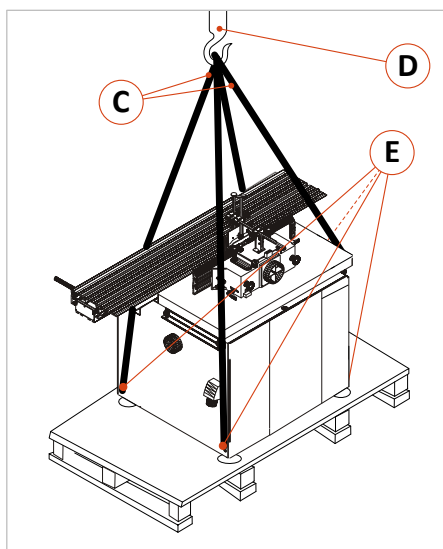

Figure 6: Lifting and parking with a crane
- Prepare four lashing straps or transport ropes (C) with the required load capacity and in sufficient length and hang them on the crane hook (D) as shown in ⇒ Figure 6.
- Then fasten the straps/ropes (C) in the four transport lugs (E) of the machine and adjust them well. If necessary, move the crane a little to ensure vertical and stable lifting. Do not tilt the machine!